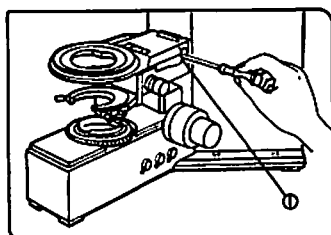

Fig. 44
(Figs. 44, 45)
2. Using the Allen screwdriver, loosen the substage bracket clamping screw ① and remove the substage. (Fig. 44)